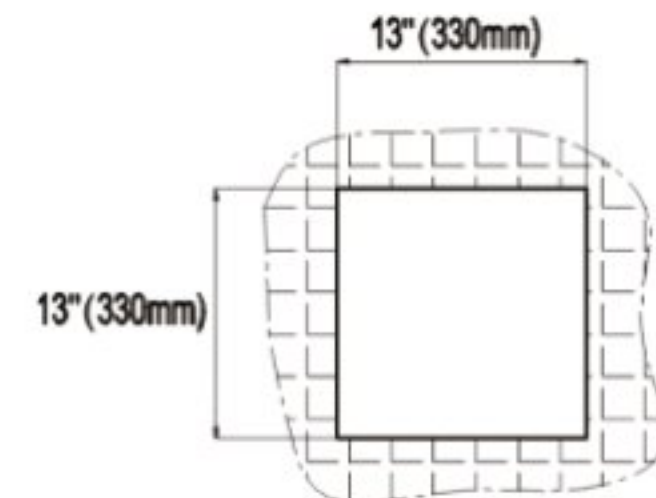

Figure 13
- 1) Cut a hole of 13" x 13" (330 x 330mm) on the suitable location on the RV - refer to Figure 13